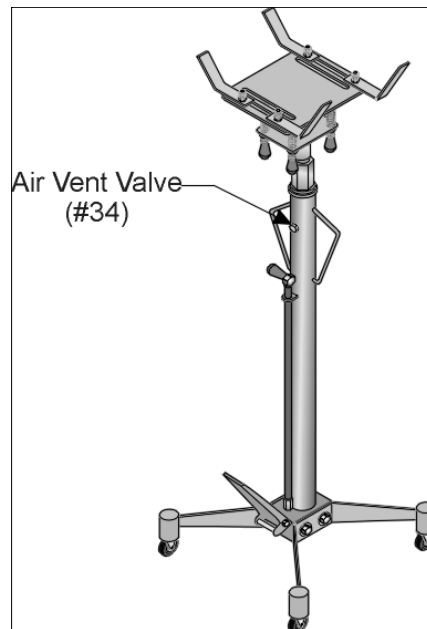

Figure 10--Removing the Air Vent Valve
Step 1: Unscrew and remove the AIR VENT VALVE (#34) from the RESERVOIR (#18) as shown in Figure 10.